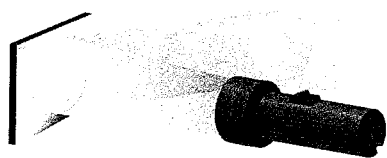

Figure 4
1. In a dark room, shine the flashlight onto the mirror, as shown in **Figure 4**. Observe the effect on the white cardboard you are using as a screen.